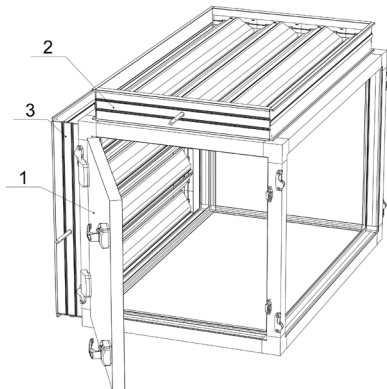

Figure 6.7.1. One stage mixing section with two dampers outside.
1. One stage mixing section with two dampers outside (Figure 6.7.1).